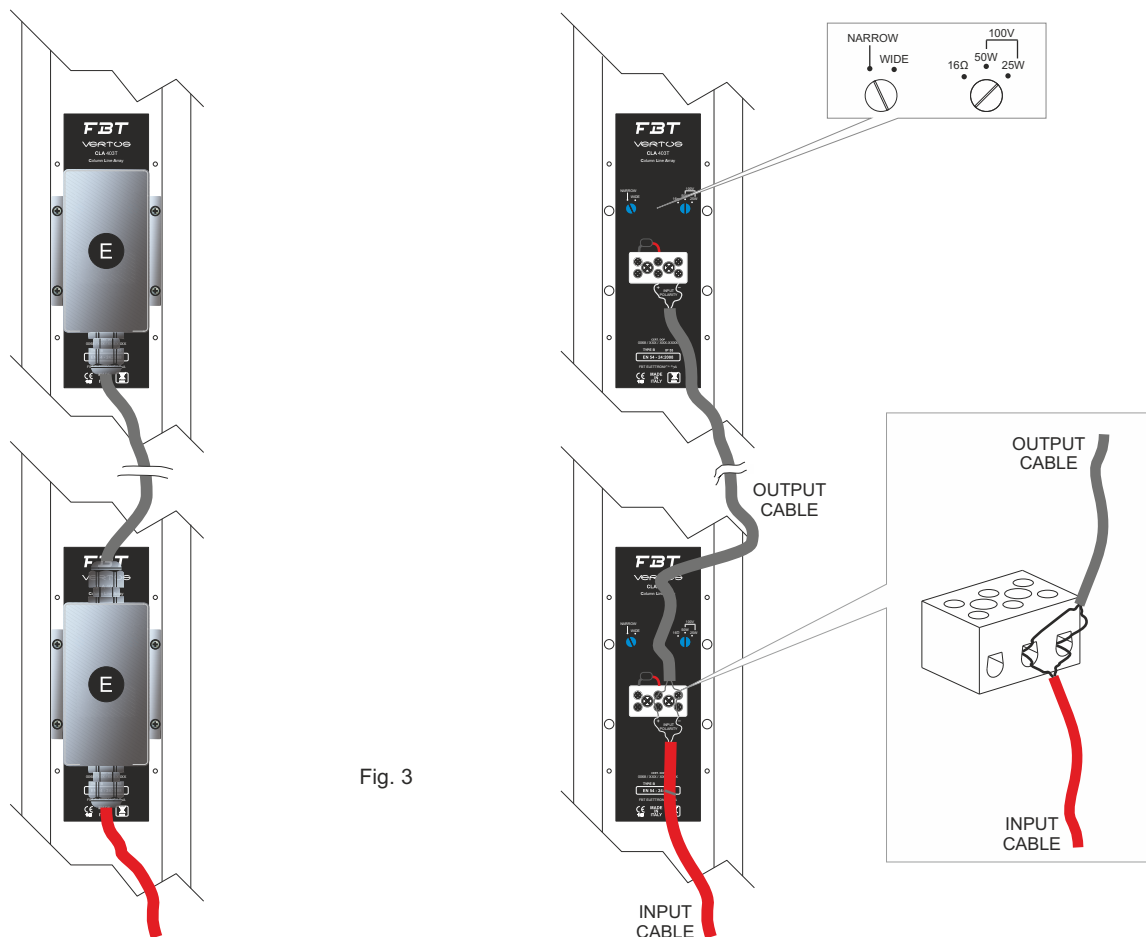

Fig. 3
- The two screw clamps "+" and "-" allow the connection of both the input cable and output cable for the parallel connection of other speakers. (see fig. 3)